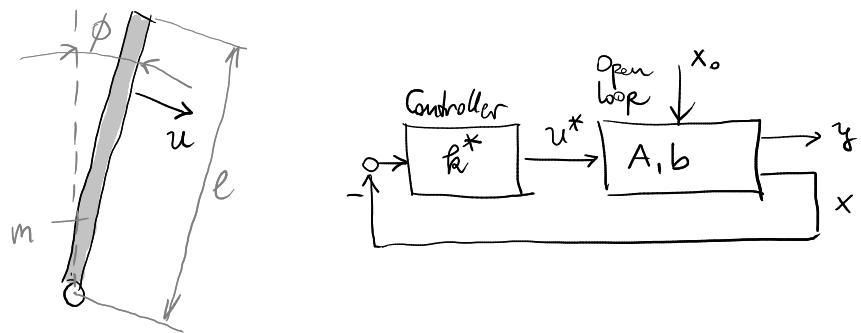

Figure 1: A simple inverted pendulum (left), where ϕ and $\dot{\phi}$ are the angular position and velocity, and a basic control block diagram (right)
We explore infinite-horizon linear-quadratic (LQ) control of a simple inverted pendulum (Figure 1). We want to find an optimal state-feedback controller $u^* = \mathbf{k}^* \cdot \mathbf{x}$ that stabilises the pendulum rod of length $l = 0.68$ m and mass $m = 10.67$ kg at $\phi = 0$ using a *minimal* momentum u applied somehow¹ to the rod. The second-order state-space formulation *linearised* around the goal location $\bar{\phi} = 0$ is given by